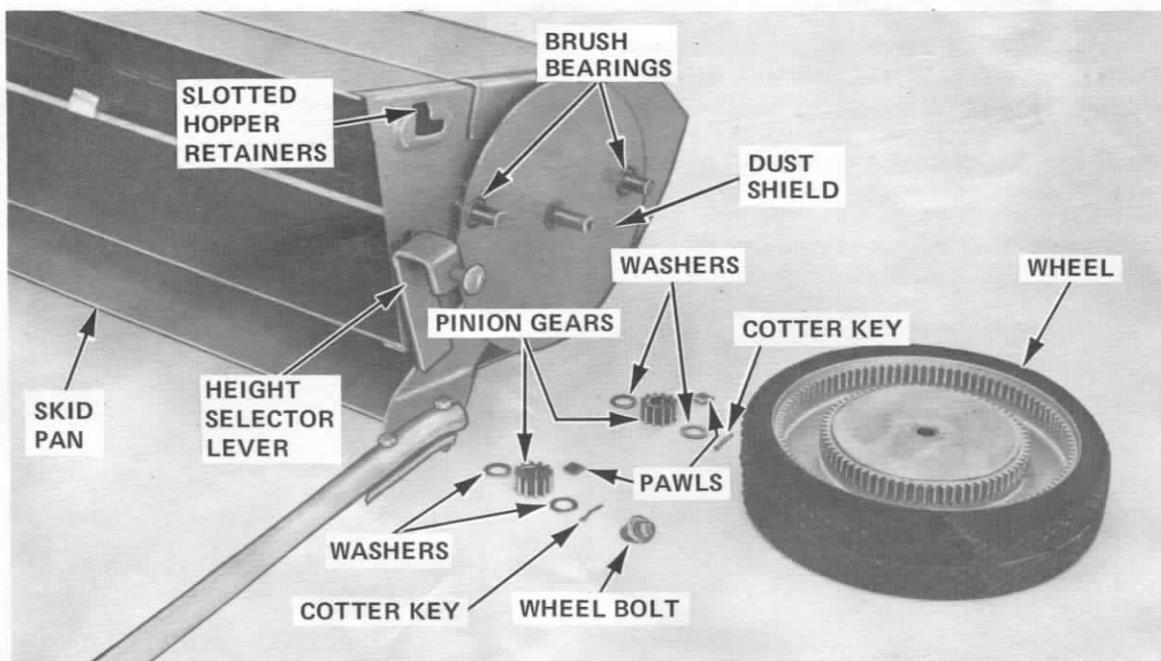

Figure 6 Drive Wheel and Gears Removed
2. Before sweeping, pick up all tree branches, etc. too large to be picked up by the sweeper as they can lodge in the brush mechanism and cause wheel slippage. The metal skid pan (See Fig. 6) which is under the full width of the sweeper protects it from rocks and protruding objects.
The Hopper should then be inserted in the slotted hopper retainers (Figure 6) in the Sweeper Housing Assembly.